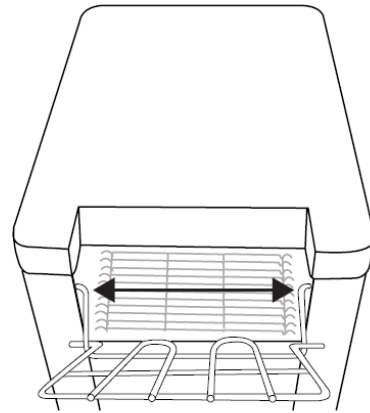

Fig. 1
2. Rest the legs on the outside of the appliance **[Fig. 1]**.